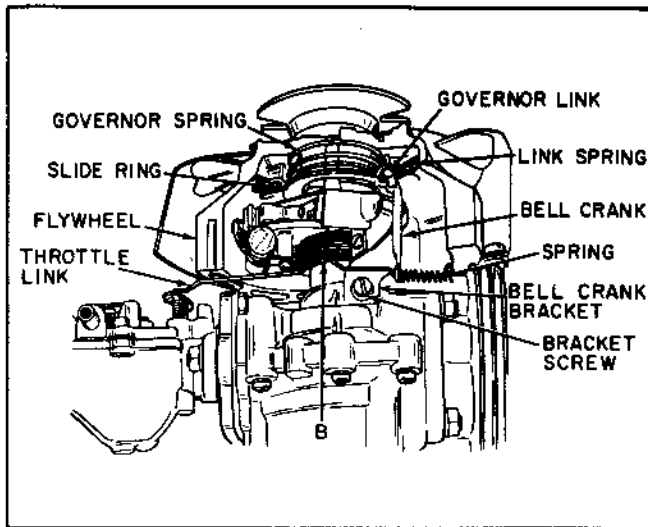

Figure 5-10. Flywheel Mounted Governor Assembly
- (1) A cutaway view of this governor is shown in Figure 5-10. An engine speed increase throws links outward compressing link springs. Links apply a thrust against slide ring, moving it upward and compressing governor spring. As slide ring moves away from thrust block of bell crank assembly, throttle spring causes thrust block to maintain engagement and closes throttle slightly.
- (2) Loosen bracket screw and slide governor bell crank assembly toward or away from flywheel. Toward flywheel increases engine speed; away from flywheel decreases engine speed. Tighten screw to secure bracket mounting.
- (3) Install flywheel and check engine speed with tachometer. If engine speed is far off, reposition governor bell crank bracket. Always make primary speed adjustment by adjusting position of bell crank bracket. Close adjustment only should be made by bending throttle link.
- (4) Make minor speed adjustments by bending throttle link at point B in Figure 5-10. Bending link increases speed. Always remove throttle link before bending to prevent distorting bell crank or throttle lever.